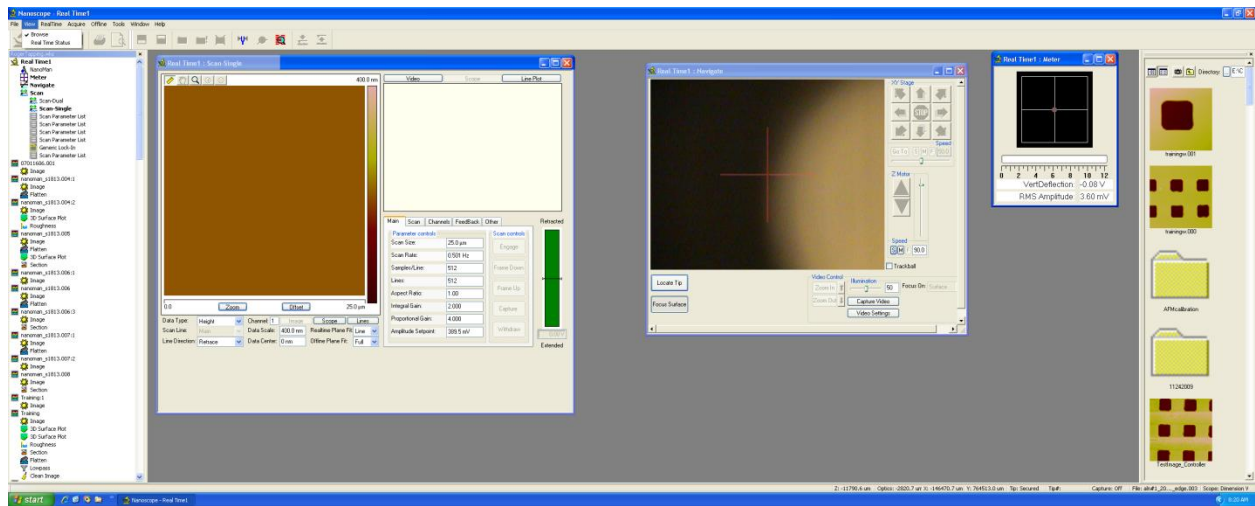

Figure 8. Useful arrangement of control windows to run the AFM
- a. When the workspace opens, it will have many of your preferences open automatically; however they may be placed in strange places on the screen because Windows remembers how the previous user arranged the windows. So you might have to rearrange them to your liking. (Figure 8 shows a convenient and useful arrangement).